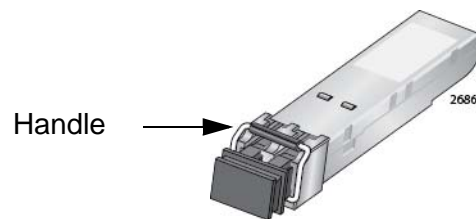

Figure 54. Handle on a Fiber Optic Stacking Transceiver
2. To install the transceiver in the S1 slot, position it with the handle on top, as shown in Figure 54. To install it in the S2 slot, position it with the handle on the bottom.